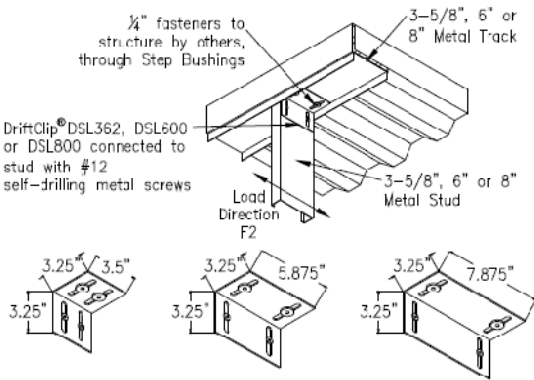

Figure 3 DriftClip® DSL362/400, DSL600 and DSL800
**3.1.4 DriftClip® DSL:** DriftClip® DSL362/400, 600 and 800 are L-shaped angles that connect  $3\frac{5}{8}$ - or 4-, 6- and 8-inch-deep (92 or 102, 152, and 203 mm) exterior curtain wall steel studs, respectively, at head of wall to the building's structural frame while allowing for a maximum of 2 inches (51 mm) of vertical, and horizontal movement between exterior wall elements and the primary structure. The minimum base-metal thickness of the clips is 0.0966 inch (2.5 mm). The two legs of the DriftClip® DSL362/400, 600 and 800 connectors are equal in length, and each has two or three slots perpendicular to the heel of the angle, each  $\frac{3}{8}$  inch (9.5 mm) wide by  $2\frac{3}{8}$  inches (60 mm) long. The leg which is fastened to the curtain wall stud has bushings designed for No. 12 self-drilling/self-tapping steel screws installed in the center of each slot. The other leg, which is fastened to the structure, has bushings designed for  $\frac{1}{4}$ -inch-diameter (6.4 mm) fasteners installed in the centers of the slots. Refer to Figure 3 for overall dimensions of each DriftClip® DSL connector and a typical installation detail.